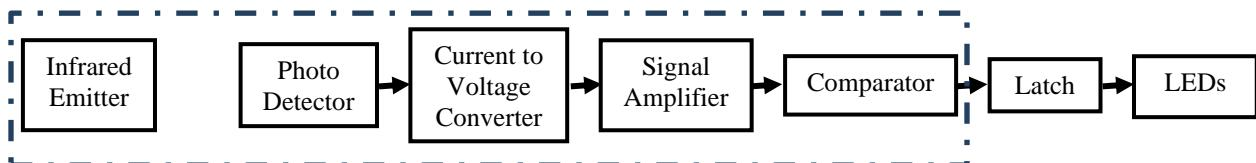
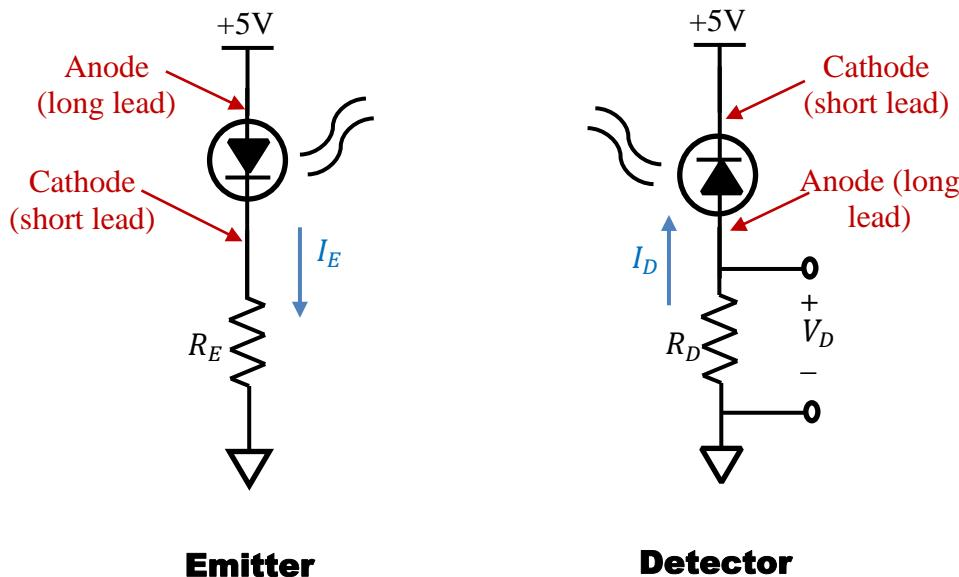
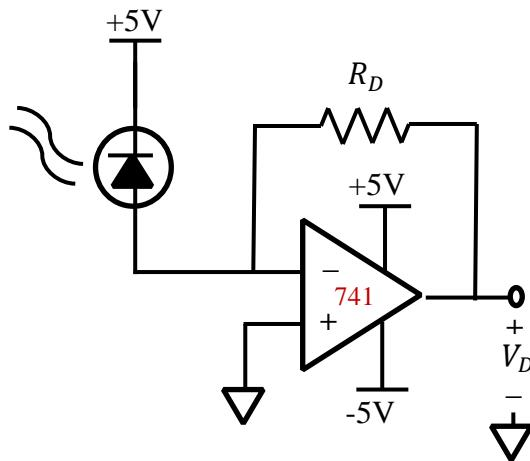

Figure 4.1 – Block Diagram of Alarm Circuit
Figure 4.10 – Emitter and Detector Circuit
Figure 4.12 – An Op-amp based detector circuit.
**Goals for Lab 4** – In Lab 4 and Lab 5, you will design, build and analyze an electronic security system using an infrared (IR) emitter, a photo detector, operational amplifiers, resistors, a comparator, a latch, and light emitting diodes. The main task is to build a circuit that will detect an interruption in a light beam and trigger an indicator. In the process of designing this system, you will learn to use op-amps to serve various purposes.
**Theory** -The block diagram of the system is shown in Figure 4.1. The stages to be built and tested this week are enclosed in the dashed box. An IR emitter is employed to send a (non-visible) light beam to a photo detector. The photo detector current induced by the light beam depends on the strength of the beam. The first stage in your design will be to build a circuit to convert the current produced by the photo detector to a voltage. We will investigate a few different configurations for achieving this. Since the output of this first stage may be very small, you will design and build an op-amp based amplifier to bring the signal strength up to a usable level. After the voltage is amplified, it will be sent into a comparator which basically decides whether the light beam is present or is being interrupted. In Lab 5, you will build a latch to lock the signal and a system of LEDs to serve as the alarm. In the end, whenever the beam is obstructed, the comparator output will be changed. It will then be locked by a latch circuit and the appropriate LED will light.
First, assemble the emitter using the simple circuit shown in the left of Figure 4.10. The purpose of the resistor is to limit the current so as not to damage the emitter. Since the emitter is rated at a maximum continuous forward current of 50mA, the resistor,  $R_E$ , should be at least  $100\Omega$  (assuming a +5V supply voltage, if you use a larger value, the resistor value must be increased accordingly). In order to avoid the danger of burning out your emitter, it might be a good idea to design your emitter circuit (choose resistor values) to produce a current that is safely less than 50mA (maybe something in the 10-30mA range). Measure the voltages across both the resistor
Next assemble the detector circuit as shown on the right in Figure 4.10. The resistor in this circuit is playing a completely different role. As long as there is a sufficient bias voltage across the photo diode, current will flow and the amount of current will be related to the intensity of the IR light incident. The resistor is now converting the current produced by the photo diode to a voltage. In the context of Figure 4.1, the resistor  $R_D$  is the “current to voltage converter.” Measure the voltage,  $V_D$ , for several different values of  $R_D$ . As before, you can infer the current  $I_D$  from the measured voltage,  $V_D$ . Again, provide a plot of these quantities in your lab report. Make sure to record and note the distance between your emitter and detector that led to these measurements.
Finally, consider the op-amp based detector circuit shown in Figure 4.12. Try implementing this circuit for your detector. In your lab report, explain how this is better/worse than the simple resistor we used previously.
- Provide plots characterizing the operation of the detector circuits (both the one in Figure 4.10(b) and the one in Figure 4.12).